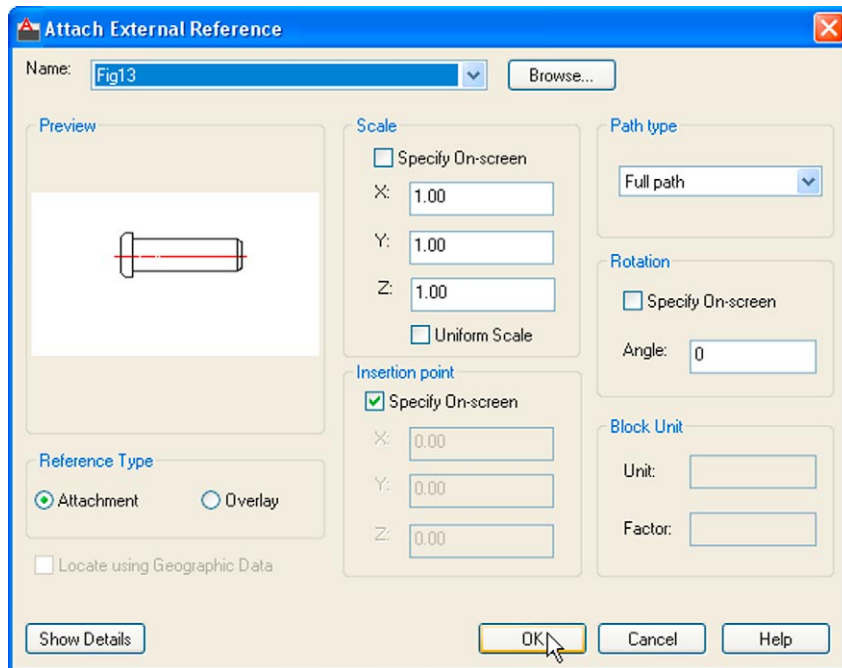

Fig. 10.16 The Attach External Reference dialog
4. Click its **Attach** button and select **Attach DWG...** from the popup list which appears when a *left-click* is held on the button. Select the drawing of a spindle (**Fig13.dwg**) from the **Select Reference file** dialog which appears followed by a *click* on the dialog's **Open** button. This brings up the **Attach External Reference** dialog (Fig. 10.16) showing **Fig13** in its **Name** field. Click the dialog's **OK** button.